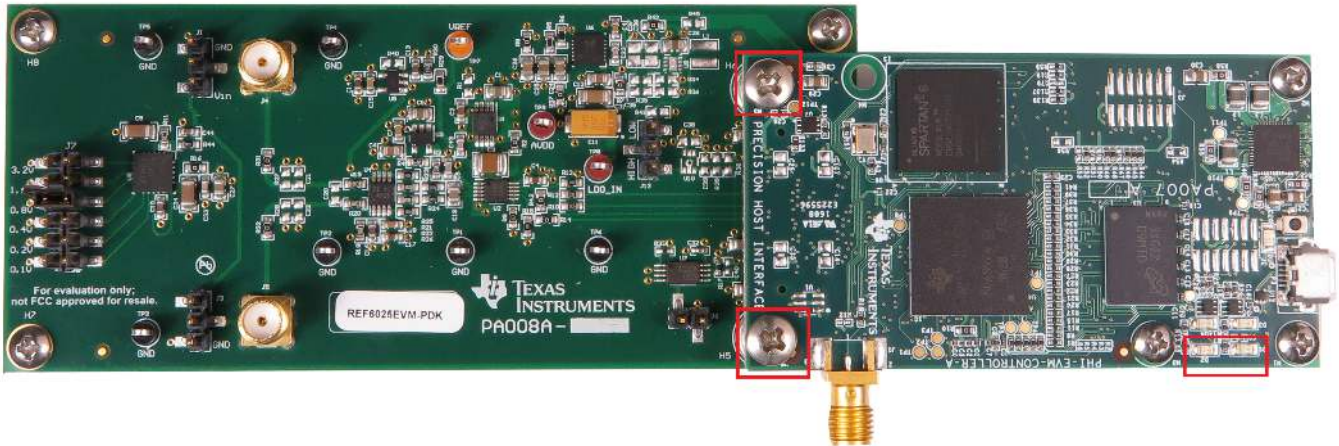

Figure 7. EVM-PDK Hardware Setup and LED Indicators
1. Connect the REF6025EVM to the PHI. Install the two screws as indicated in Figure 7.
- LEDs D1 and D2 on the PHI starts blinking to indicate that the PHI is booted up and is attempting to communicate with the PC. The resulting LED indicators are shown in Figure 7.